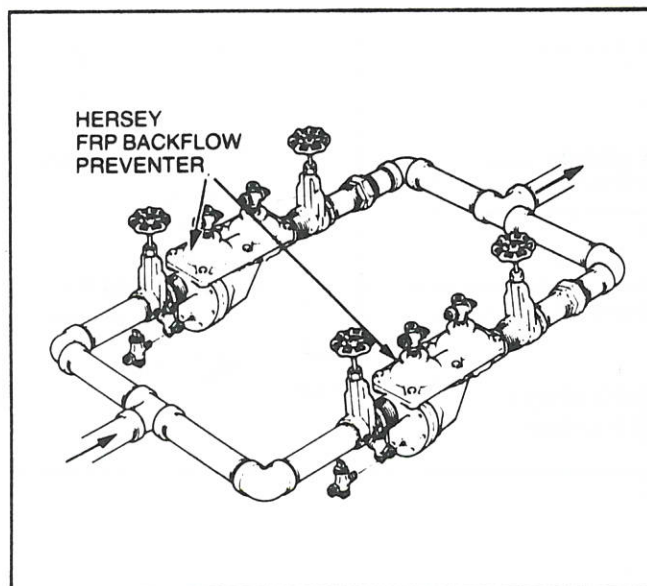

Figure 6. BATTERY (PARALLEL) INSTALLATION
F. BATTERY (PARALLEL) INSTALLATION (See Fig. 6)